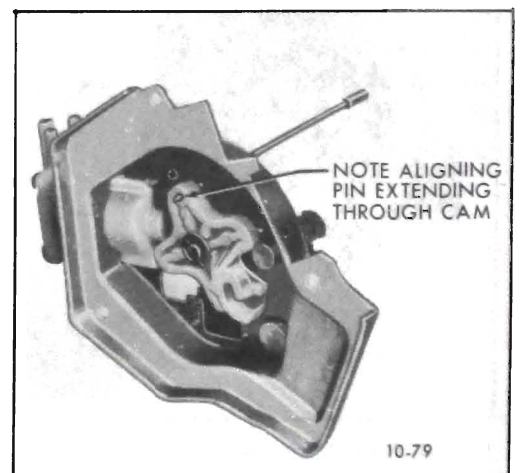

Figure 10-53 Pump Cam Alignment Pin in Place
pump assembly on wiper motor. See Figure 10-53.
pump mounting plate are aligned. Insert a length of 1/8" rod through pump mounting plate and cam to maintain alignment while installing pump assembly on wiper motor. See Figure 10-53
9. Rotate washer pump drive cam so that hole in cam and hole in washer pump mounting plate are aligned. Insert a length of 1/8" rod through pump mounting plate and cam to maintain alignment while installing pump assembly on wiper motor. See Figure 10-53.
10. Rotate washer pump drive cam so that hole in cam and hole in washer pump mounting plate are aligned. Insert a length of 1/8" rod through pump mounting plate and cam to maintain alignment while installing pump assembly on wiper motor. See Figure 10-53.